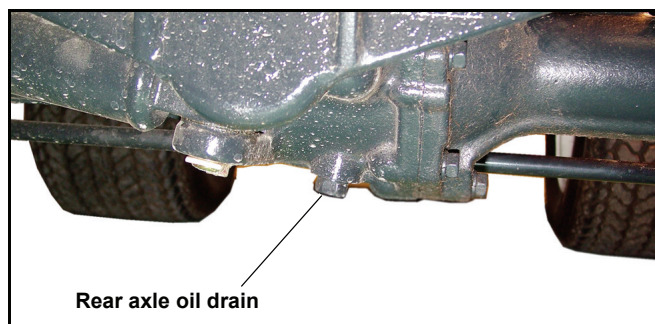

Figure 4-27
1. With the oil at normal operating temperature, drain the oil by removing the rear axle and final reduction gear case drain plugs. Reinstall the plugs after the oil has drained. Discard the oil. Figure 4-27 & Figure 4-28